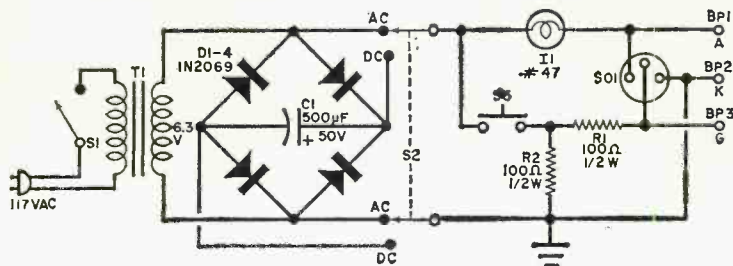

Fig. 1. Simple SCR tester developed by Jim DeYoung and Peter Hanson can check proper operation of an SCR using either a.c. or d.c. supplies.
**Reader's Circuit.** Easily assembled in a single evening, the project in Fig. 1 is the result of joint efforts by engineer Jim DeYoung, who designed the basic circuit, and reader Peter C. Hanson, K2MPG/8 (1001